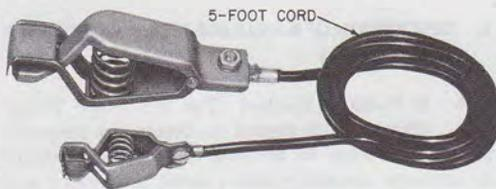
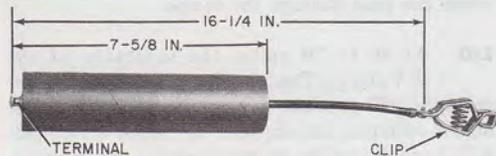

Fig. 2—B-Temporary Bond
Fig. 3—B-Shunting Capacitor
**2.03 Canvas Bag:** The canvas bag has been provided to carry and store the B-Voltage Tester, B-Temporary Bond (Fig. 2), B-Shunting Capacitor (Fig. 3), and a test date card.
**2.05 Shunting Capacitor:** The B-Shunting Capacitor (Fig. 3) is used to distinguish dangerously energized equipment from weakly energized equipment which is not dangerous. This is necessary in some localities to avoid unjustified investigations by the responsible electric utility.
**2.10 B-Temporary Bond:** The B-Temporary Bond (Fig. 2) is used to temporarily ground a light fixture, metallic conduit, power company hardware power ground wire, or other metallic objects in the telephone company work space which could become energized if a fault developed. The B-Temporary Bond is placed on such attachments only after the metallic object has first been tested with the B-Voltage Tester and found to be free of a voltage potential. When placed, the bond is first attached (small clamp) to a reliable ground source and then to the metallic object. When the